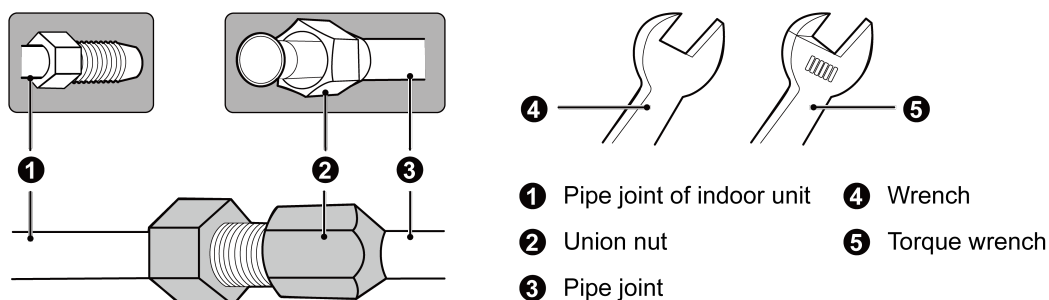

Fig.4.2.1
- (1) Aim the flaring port of copper pipe at the center of screwed joint and then tighten the flaring nut with hand as shown in Fig.4.2.1.
- (2) Tighten the flaring nut with torque wrench.